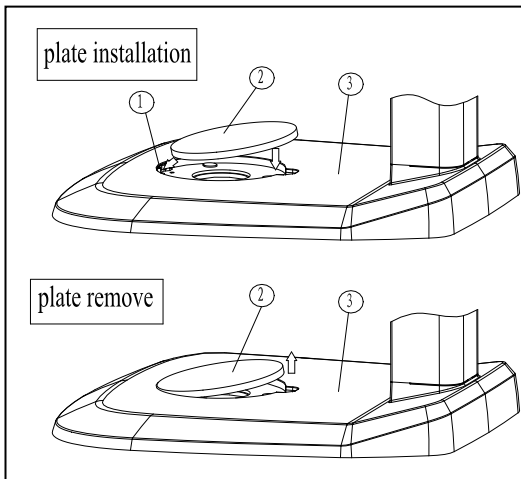

Fig 15
### 6.2.3 Stage plate installation (Fig 15)
3. Install the glass plate (Fig 15).